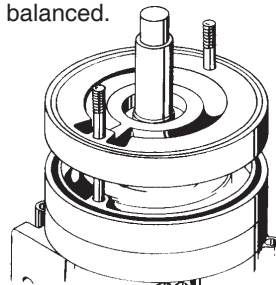

Figure 4-8
11. Slide another left hand channel ring (#10) into place with the water channel facing up.(refer to figure 4-8) This time, however, place the large inlet opening in the "five o'clock" position. By locating successive stages 180 degrees from the last, hydraulic loads are radially balanced.